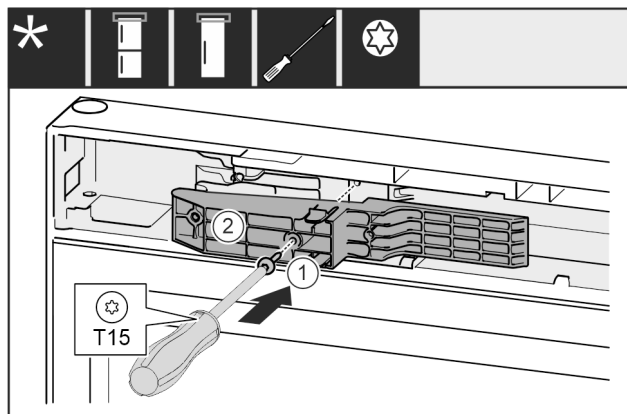

Fig. 70 *
- ▶ 将把手侧的适配件 Fig. 70 (1) 插入凹槽。*
- ▶ 将螺钉 Fig. 70 (2) 用螺丝刀拧紧。*